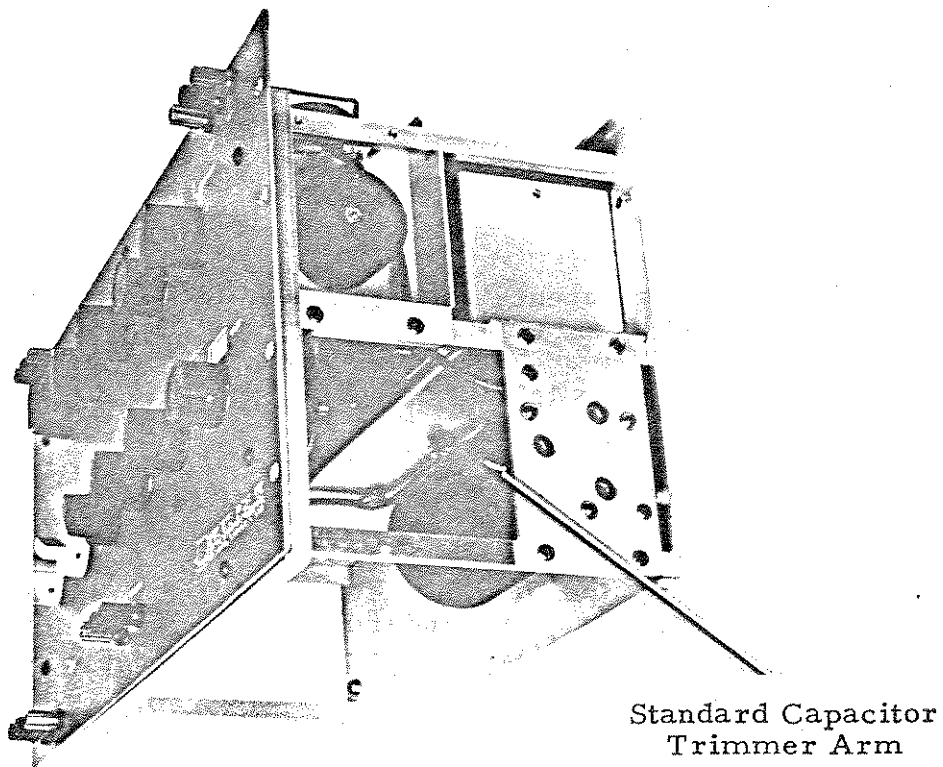

Fig. 4-1 MODEL 707B, Serial Number less than 734000
- f) Adjust standard capacitor trimmer (figure 4-1) and DISSIPATION dials for detector null.